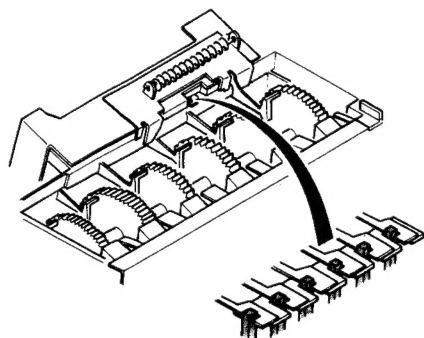

Fig. 22
- 7) Check to see if the lever (gear stopper) is properly inserted into the plate. (See figure 22)